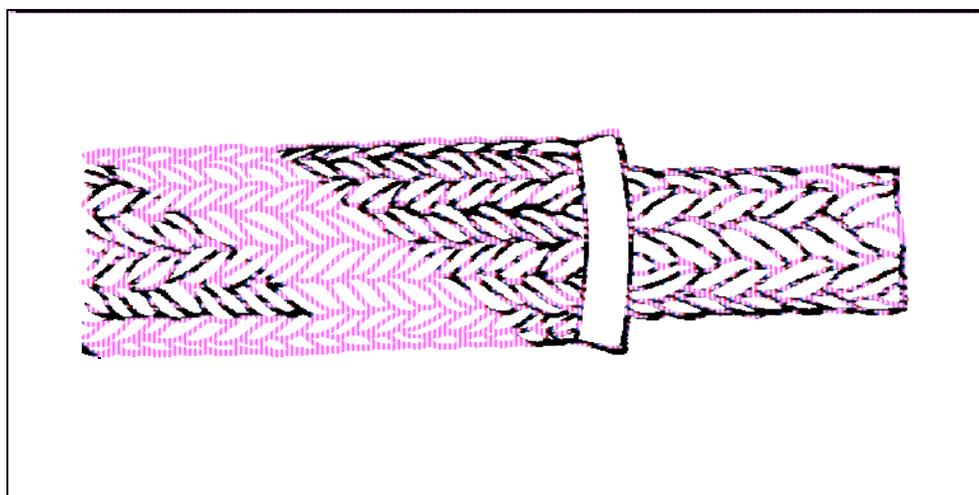

Figure 5-3.1 - A Braided Rope with Braided Core
- f. **Braided Rope.** This rope, known commercially as core/cover rope, is constructed by crossing and recrossing the yarns or strands in 'maypole' fashion such that each yarn or strand passes alternatively over and under one or more of the others to form a circular tubular sheath, which contains a core. All braided ropes in the Canadian Navy fall into this category: a braided sheath around a braided core (Fig 5.3-1).